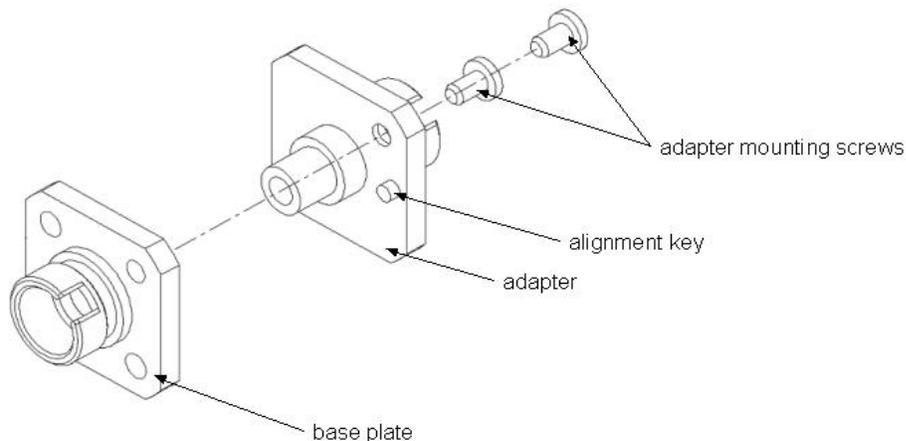

Figure 4: Universal Connector Adapter
1. Remove the two adapter mounting screws with the No. 0 Phillips screwdriver (see Figure 4). Removing the adapter will expose the internal connector that is fastened to the base plate. The internal connectors are mounted at the factory and should not have to be adjusted under normal operating conditions.